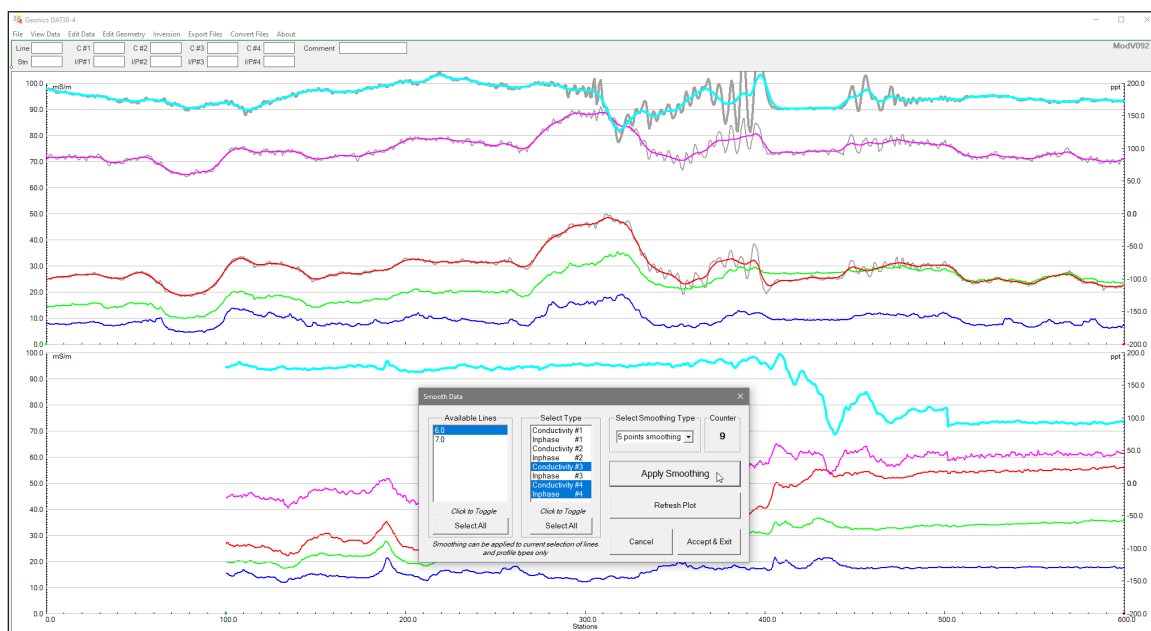

Figure 4.9 DAT38-4 during Smoothing procedure
- The profile view updates in real-time, with the original curves in gray for easy comparison (Figure 4.9).